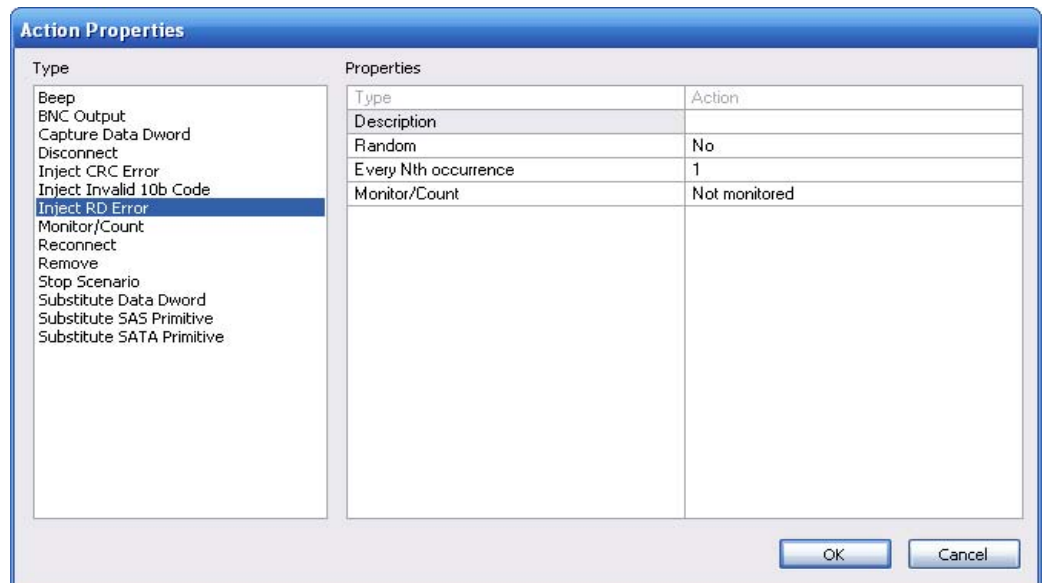

Figure 65 Example 5: Action Drop-Down List (For Second Action)
Step 4 The Action Properties dialog box appears. Choose **Inject RD Error** as the second action (Figure 65).